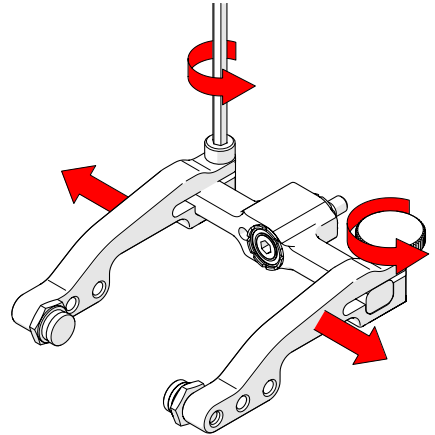

Fig. 71 - Remove arms
2. Loosen the probe holder arm adjustment knob and arm clamp screw. Slide the arms from the yoke (Fig. 71).